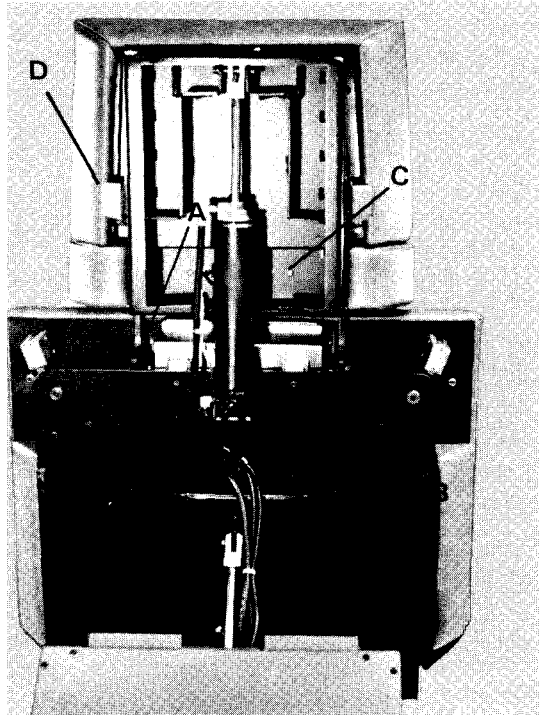

Fig. 5
- 3) Remove the (2) screws located at the front edge of the seat section. (Item A, Fig. 5) It is easiest to do this with the leg extension raised up.
- 4) Remove the (2) screws located under the seat section, near the hinge, by inserting a screwdriver through access hole, Item B, Fig. 5.
- 2) Align front holes under seat section, Item A, Fig. 5 and install (2)#10-24 x 5/8" screws. It is easiest to do this with leg extension raised up.
- 3) With a magnetic screwdriver, install (2)#10-24 x 5/8" screws through the access holes. Item B, Fig. 5.
- 1) Raise foot extension up, remove (2) #10-24 x 7/8" screws under the legrest frame, Item C, Fig. 5.
- 2) Align holes and install (2) #10-24 x 7/8" screws under the legrest frame, Item C, Fig. 5.
1. Remove footrest from table by lifting lever, Item D, Fig. 5, and pulling footrest toward you.
1. When placing the footrest section in the position shown in Fig. 5, the metal guides should be inserted into the slots until you hear the mechanical locking device engage.